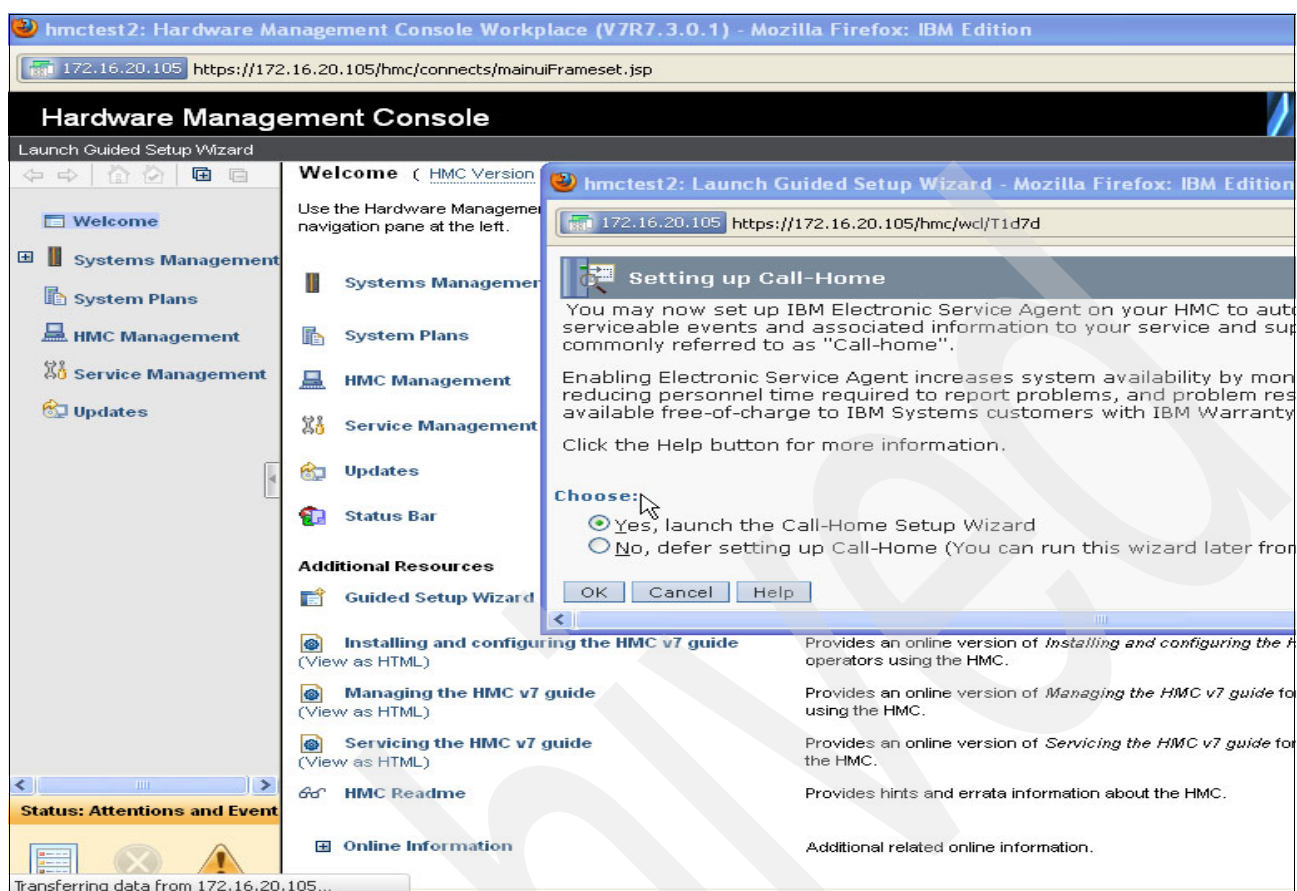

Figure 3-15 Launching the Call-Home Setup Wizard
To activate the ESA for problem hardware reporting from your HMC, as shown in Figure 3-15 on page 96, perform the following steps:
3. Select **Yes** to launch the Call-Home Setup Wizard, as shown in Figure 3-15.